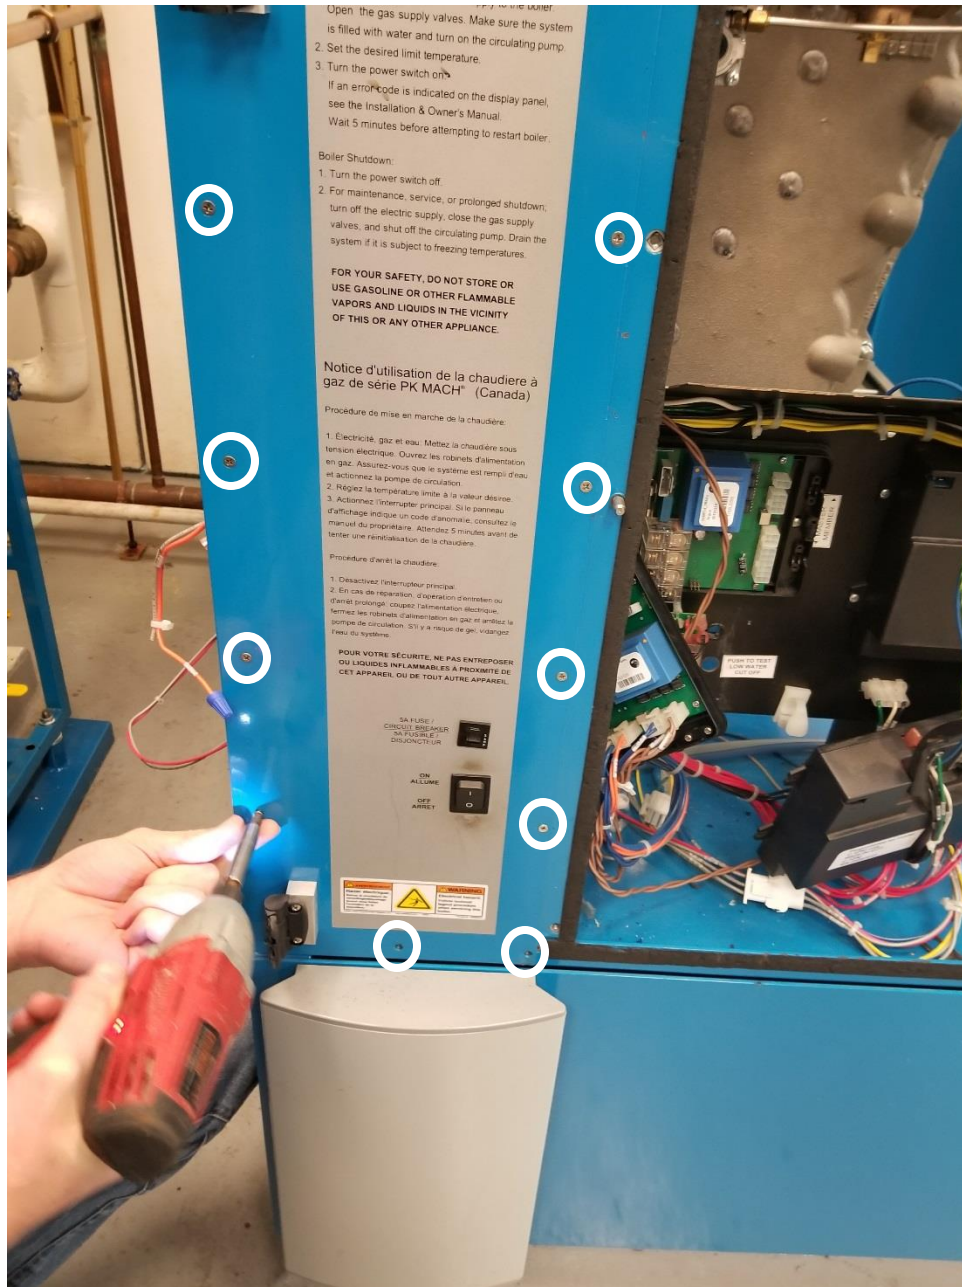

Figure 5
7. Remove 20 Phillips head screws to remove left panel from front cabinet shown in figure 5.